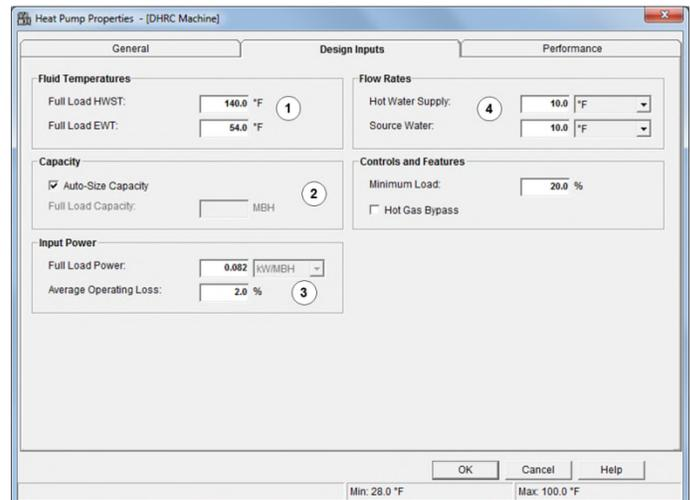

Figure 5.
- On the Design Inputs tab go to the Fluid Temperatures section (see “1” in Figure 5) and specify the design hot water supply temperature (HWST) for the heat pump. This is the leaving water temperature from the condenser. Figure 5 shows an example where the HWST is 140 F (60 C). Also specify the source entering water temperature (EWT). This is the temperature of return water in the chilled water system entering the evaporator of the heat pump. Figure 5 shows an example where this temperature is 54 F (12.2 C).
- In the Capacity section (2) specify autosized capacity or directly specify the full load heating capacity of the heat pump.
- In the Input Power section (3) specify the full load input power in terms of kW input per MBH of heating output (kW input per kW heating output in Metric).
- In the Flow Rates section (4) specify the hot water supply flow. This is the hot water flow through the condenser. Also specify the source flow. This is the cold water flow through the evaporator. A required water delta-T can be defined as shown in Figure 5 and HAP will calculate the flow, or the flow rates can be directly specified in gpm or L/s.